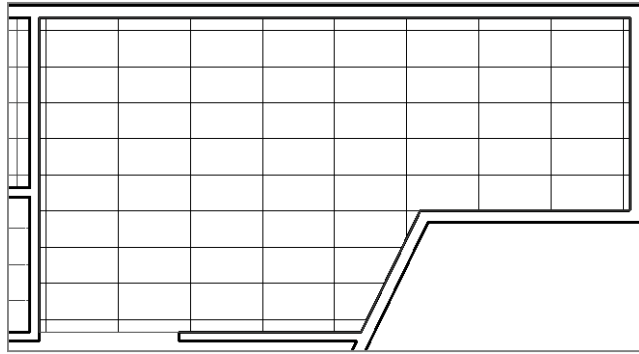

FIGURE 3.32 2' x 4" (1.2 m x 600 mm) ceiling
2. Place a ceiling at the upper right in the plan, but this time sketch a 2' × 4" (1.2 m × 600 mm) system (Figure 3.32). Choose this new system from the Type Selector before you finish the sketch of the ceiling.